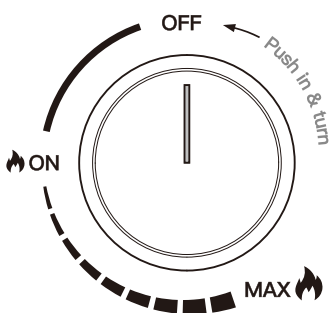

Figure 1
2. Make sure the control knob is in the “OFF” position (Figure 1).